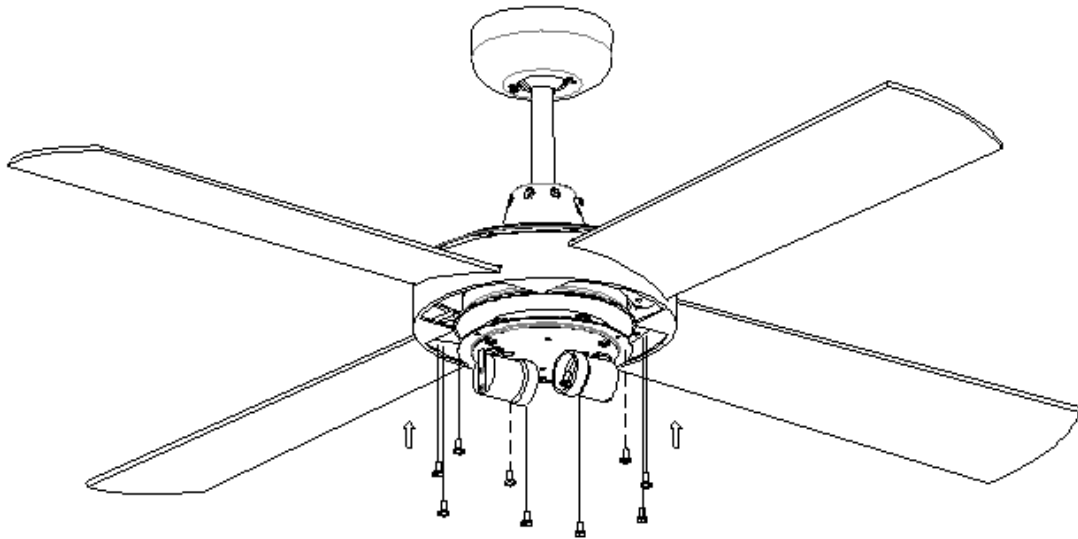

Fig.6
5. Secure the blades with 3 blade screws, and ensure that the 3 blade screws are tightened at the same time. Do not tighten on screws first, and do not over tighten the screws as this can damage the blades. Repeat this process for all blades. Fig.6